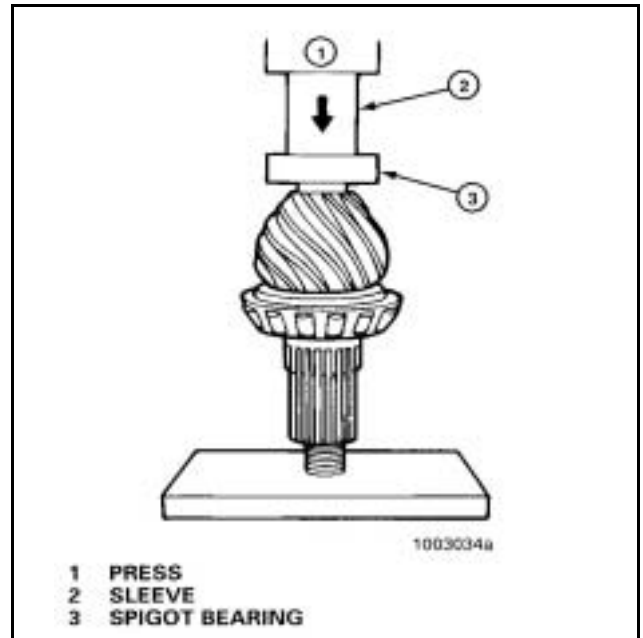

Figure 56a
- a. Place the drive pinion in a press, gear head (teeth) toward the top. **Figure 56a.**
- b. Press the spigot bearing on the end of drive pinion until the bearing is flat against the gear head. Use a sleeve of the correct size against the bearing inner race. **Figure 56a.**